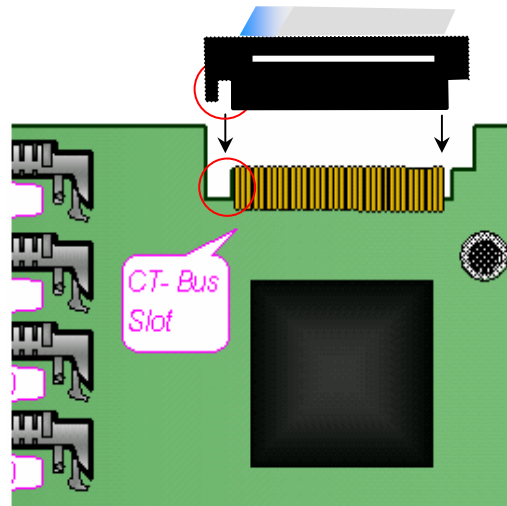

Figure 2-15 Connection of H.100 Bus
- ① See Figure 2-15 for correct insertion. Do not twist or insert in the opposite direction.